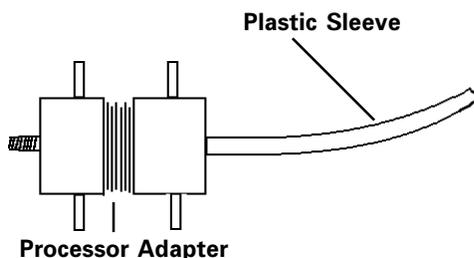

Figure 1.
3. Install a process tube adapter on a 3/16" I.D. plastic sleeve (**55602-34**), see Figure 1. Connect the plastic sleeve to one side of the yoder loop.